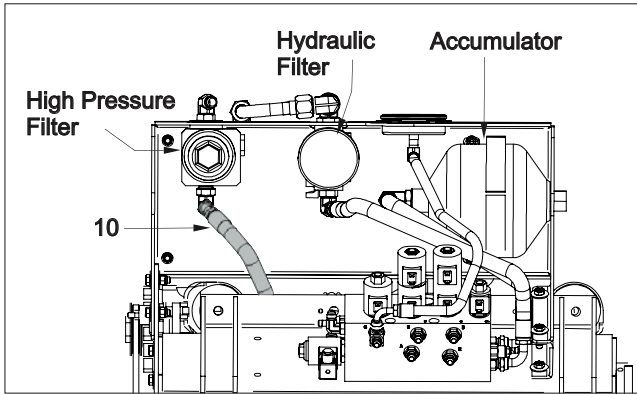
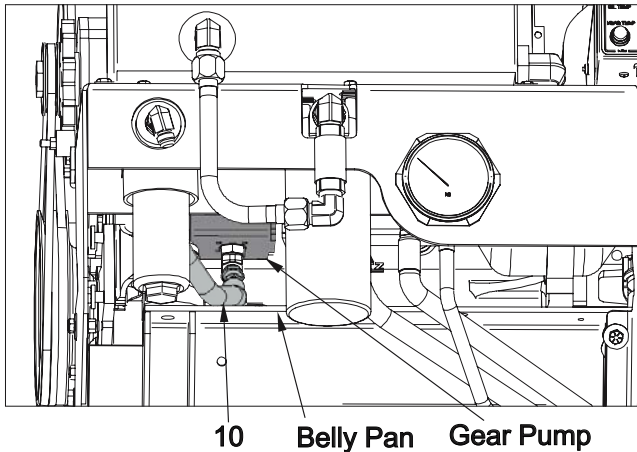

Figure 8 - Install High Pressure Hose
Figure 9 - Install High Pressure Hose
Connect hose (10) 253117, 45° elbow end of hose to the back of the high pressure filter (see Figure 8). Connect the other end to the Gear Pump (see Figure 9).